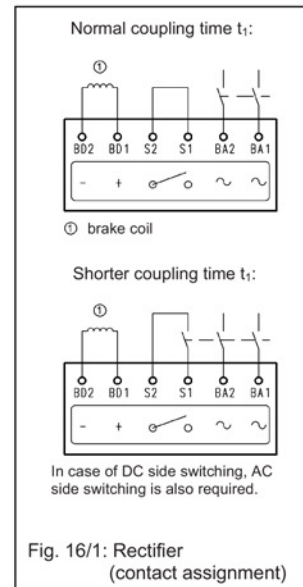

Fig. 16/1: Rectifier (contact assignment)
The spring-applied single-disc brake module must be supplied with DC voltage. Connection to an AC power source is via a half-wave rectifier (19.2). Brakes equipped with a built-in rectifier (19.2) can be connected directly to the AC power source. The contact assignment is shown in Fig. 16/1. Brakes equipped with connecting terminal (19.2) must be connected directly to DC voltage. The customer-specific connecting cable must be connected to the terminal (19.2) or built-in rectifier (19.2) by means of a cable gland (M16x1.5 for cross-sections of between 5 and 10 mm). Remove the cover (19.1) of the connector box (19) so that the individual strands of the connecting cable can be connected to the terminal (19.2) or to the contacts of the built-in rectifier (19.2).
The built-in rectifier (19.2) can be wired in such a way that AC side switching (normal coupling time t_1) or DC side switching (short coupling time t_1) is possible (see Fig. 16/1).